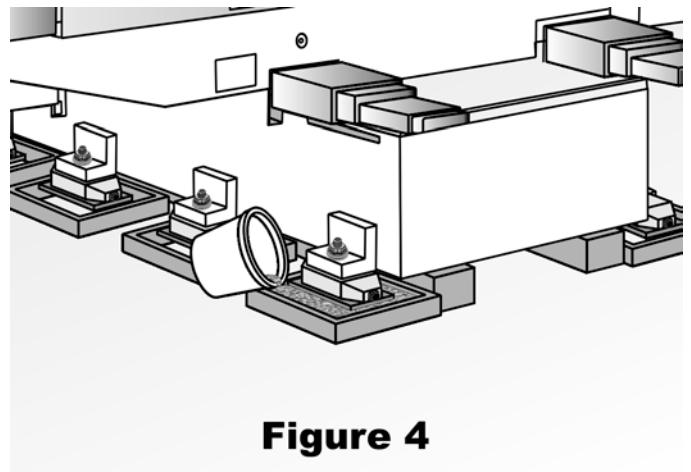

Figure 4
3. Pour the grout into form until it covers the base of the DK by $\frac{1}{4}$ ". See Figure 4. Pour the grout from one location only. Pouring the grout from multiple locations can trap air and form air pockets in the grout.